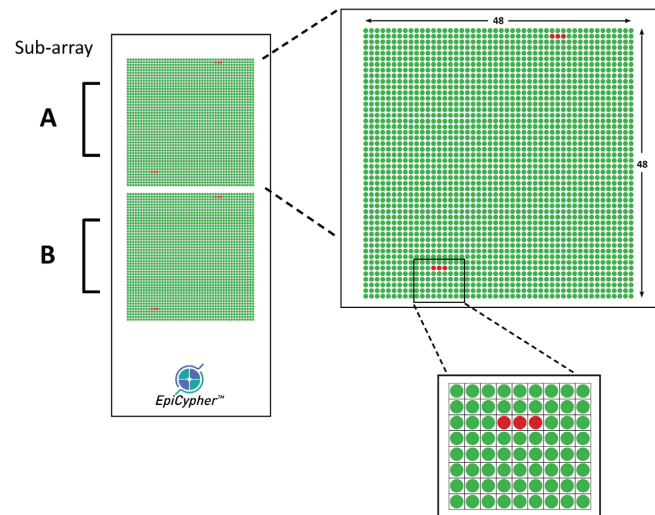
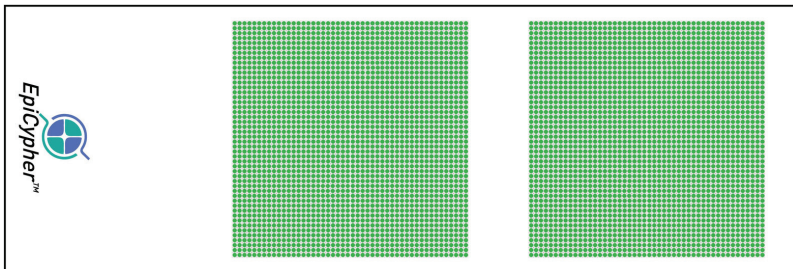

Figure 2. EpiTitan™ Histone Peptide Array slide design.
Figure 3. Peptide Placement on EpiTitan™ Histone Peptide Array.
Each EpiCypher EpiTitan™ Histone Peptide Array contains several hundred biotinylated histone peptides (approximately 20 amino acids in length) immobilized on a streptavidin-coated glass microscope slide. The complete listing of peptides is available in the spreadsheet **EpiCypher Annotated Peptide List v3.xls**, on the product page at www.epicypher.com. Peptides are spotted as two identical sub-arrays, labeled A and B in Figure 2. Within each sub-array, each peptide is spotted twice in groups of 3 (see Figure 2, red dots). This format results in each peptide being featured 12 times in defined positions across the array, and allows the user to examine interactions with over 4,000 features on a single slide. This format also accounts for spotting variability, local hybridization differences across the slide surface, and allows the user to statistically evaluate the quality of individual peptide interactions.
Please refer to the Excel spreadsheet “EpiCypher Annotated Peptide List v3.xls” available at www.epicypher.com for details on the exact layout of each peptide. This figure does not represent the exact placement of each of the sub-arrays on the slide: see Figure 3 on page 14.
6. Pipet 200 µl of the antibody solution prepared in Step 4 directly over the printed peptides (see Figure 3).
7. Carefully overlay the slide with a coverslip, avoiding the introduction of air bubbles (see Figure 3).
6. Pipet 200 µl of protein antibody solution prepared in Step 4 directly over the printed peptides (see Figure 3).
7. For analysis purposes, the array slide is divided into 4 sections (see Figure 2). Beginning with the cursor in the upper left spot on sub-array A, overlay the grid on Section 1 of the sub-array as depicted in Figure 3.
11. Drag the 48 x 24 grid down the array to cover Section 2 (Figure 3). If necessary, further align the grid as described in Step 7.
14. Repeat Steps 11-13 for peptides in sections 1 and 2 in subarray B (see Figure 2).